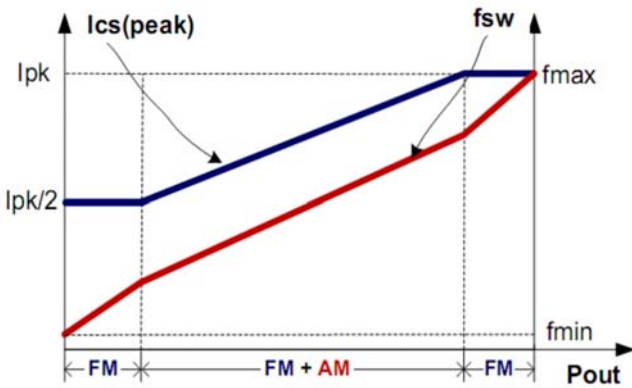

Fig.4
To meet the tight requirement of averaged system efficiency and no load power consumption, a hybrid of frequency modulation (FM) and amplitude modulation (AM) is adopted in U6772S which is shown in the Fig 4.